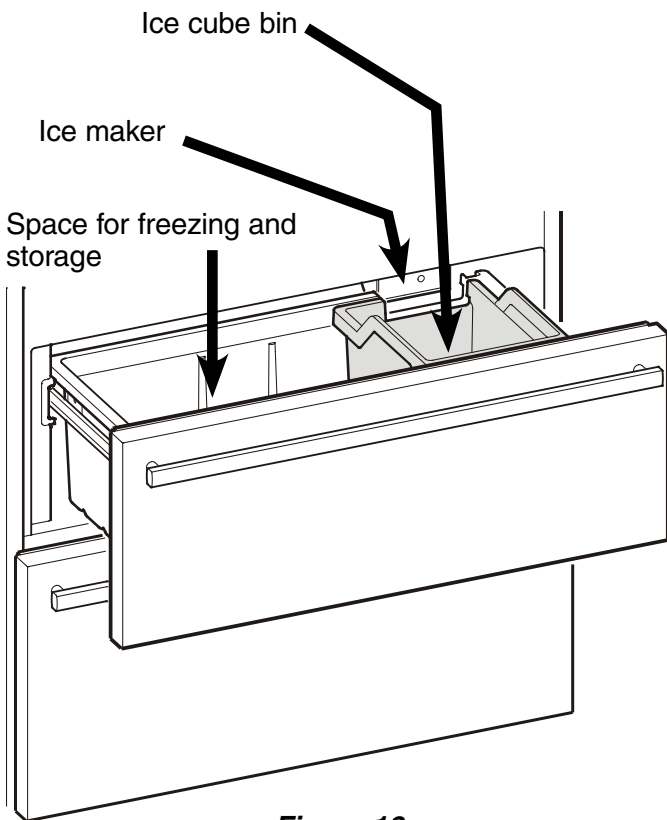

Figure 16
Description - Figure 16
- The Ice Maker can only make ice cubes if the upper freezer drawer is completely closed and the ice cube bin is installed correctly (**Figure 16**).
- Finally clean the ice cube bin (**Figure 16**).
The ice cubes fall out of the Ice Maker into the ice cube bin (**Figure 16**). When the ice reaches a certain level in the bin, the appliance stops producing ice automatically. The ice maker will not fill the bin to the top.
Be sure the upper freezer drawer is completely closed and the ice cube bin is installed correctly. (**Figure 16**).